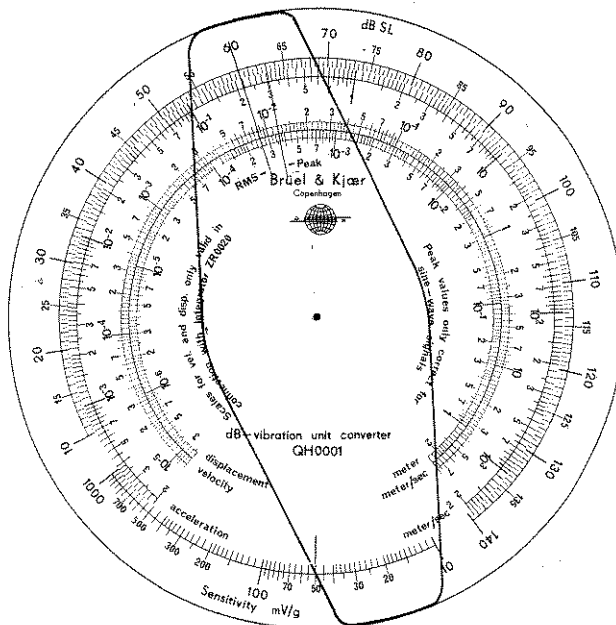

Fig.3.5. Slide Rule QH 0001 set for an accelerometer sensitivity of 50 mV/g and an SPL of 60 dB
The vibration amplitude may only be calculated in the same parameter as that set on the Integrator, and the Slide Rule must not be used to convert from one parameter to another. To determine another parameter, the Integrator must be set and the 2209 calibrated for that parameter and new measurements made. The circular Slide Rule QH 0001 (shown in Fig.3.5) provided with the Integrator should be used to make the calculations as follows:
1. Set the isolated red line on the sliding scale adjacent to the accelerometer sensitivity in mV/g on the outer scale of the Slide Rule. (It is shown adjacent to 50 mV/g in Fig.3.5.)
2. Turn the cursor so that its RMS line lies over the value of the 2209 meter reading (M) in dB on the outer dB SL scale of the Slide Rule.